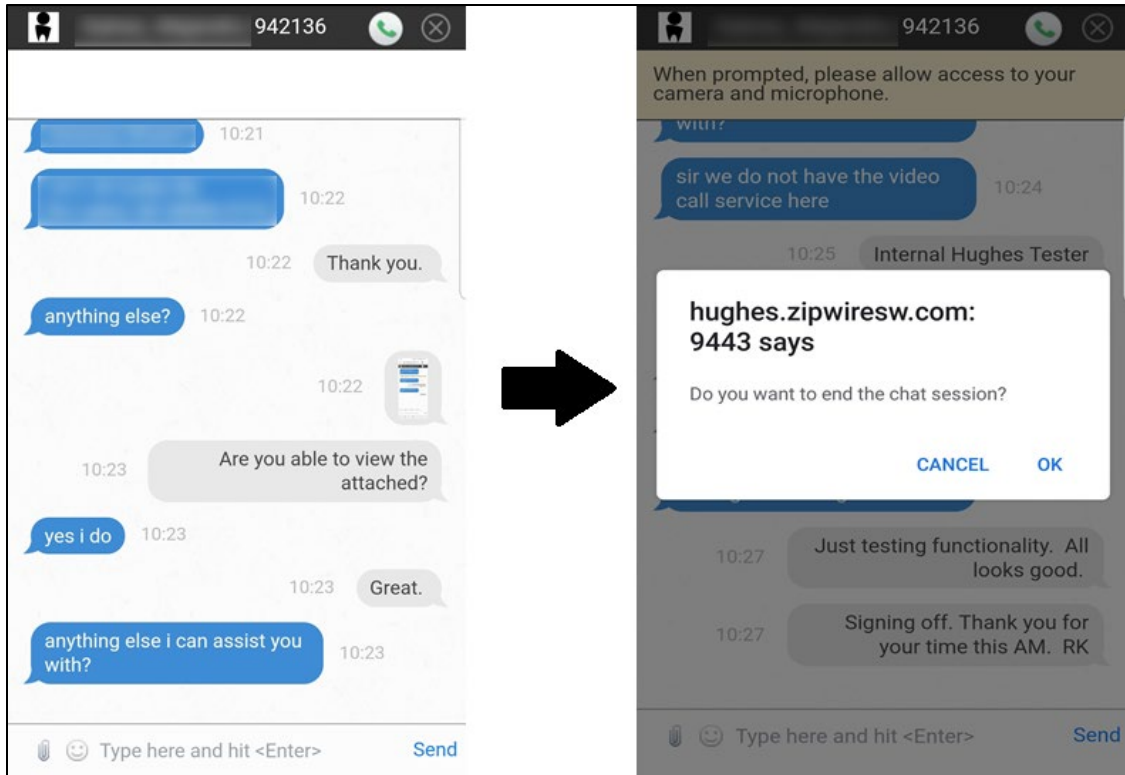

Figure 16: Closing the chat client
4. When you are finished chatting with the agent, you can tap the **Exit** button in the upper right-hand corner of the window, as shown in Figure 16. The chat client will ask you to verify that you want to end the chat session. Tap **OK** to proceed.